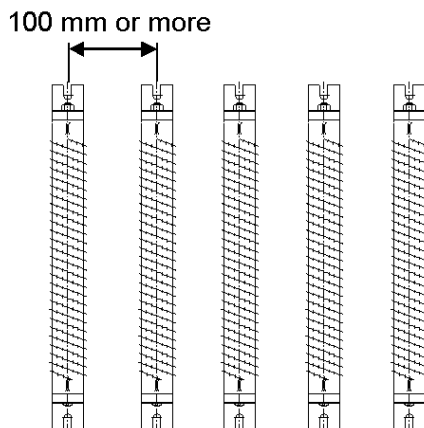

Fig. 4.1b Regenerative Resistor Installation Standard
- Pay attention to the installation standard below (Fig. 4.1b).